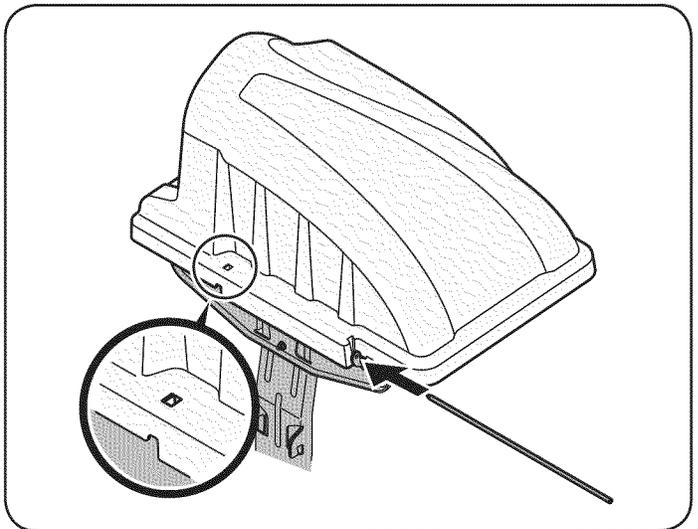
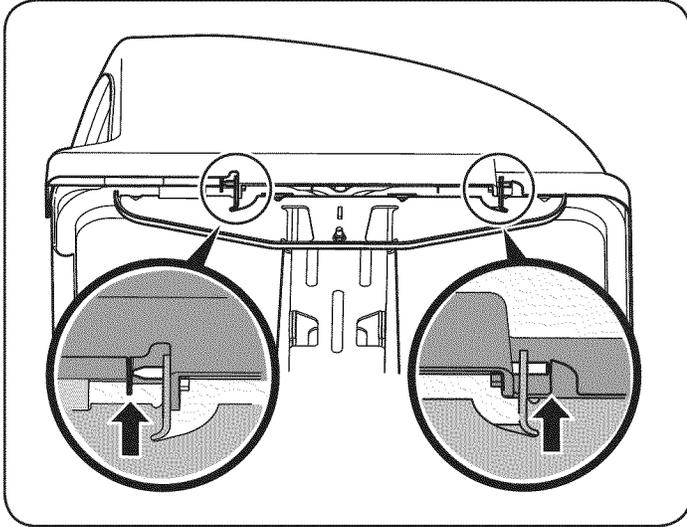

Figure 12
Figure 13
4. Slide the hinge pin into the hole located on the mounting tab, as in Figure 12. Use the cut-out window (See inset in Figure 12) to line up the hinge pin on the other side and push pin all the way in until it reaches the end-stop. At this point the pin clips into place and is secured by a tab in the bagger cover. See Figure 13.